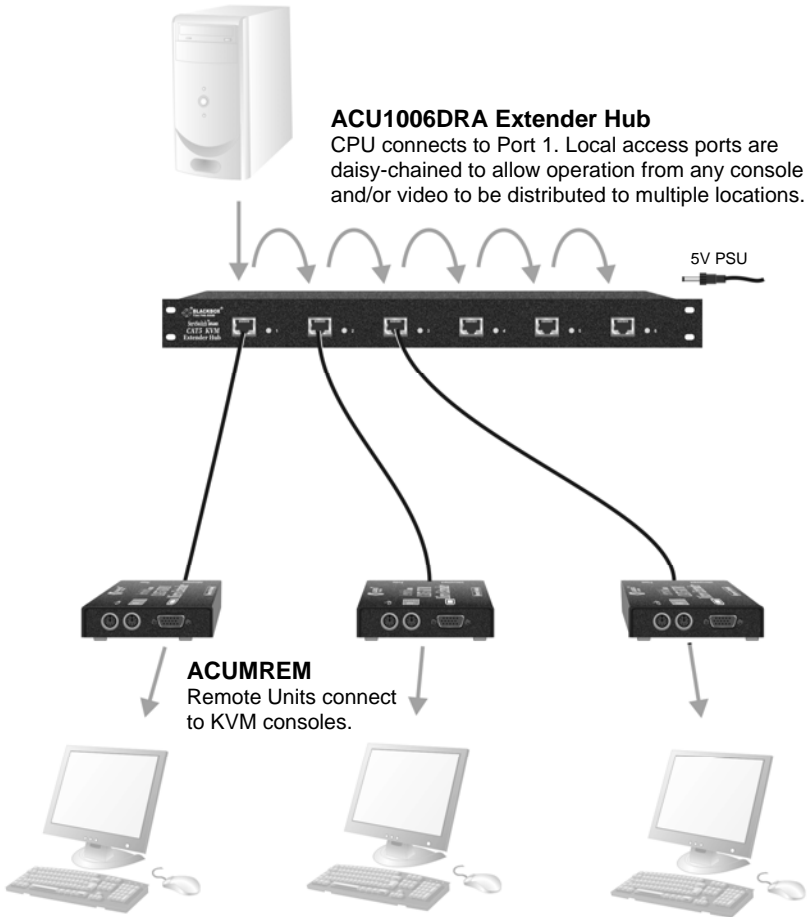

Figure 8 Information distribution system sharing a single PC
- Information distribution system sharing a single PC at up to six remote locations (Figure 8).